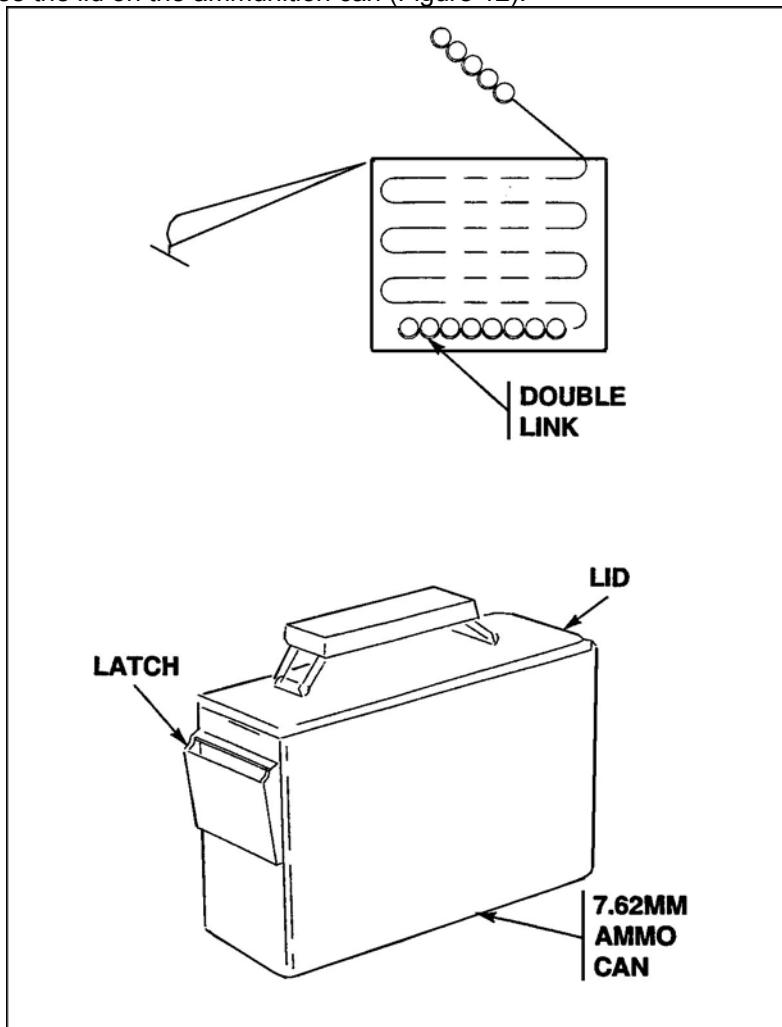

Figure 12. 7.62mm ammo can.
- (3) Place a 100-round belt of ammunition in the ammunition can ensuring that the double link is placed in first.
- (4) Repeat steps (2) and (3) until the 7.62-mm ammunition can is full.
- (5) Close the lid on the ammunition can (Figure 12).